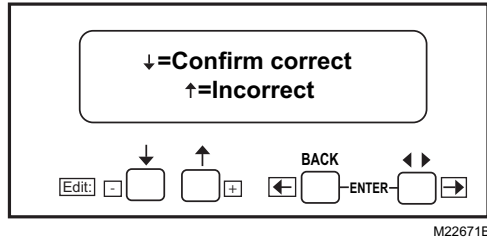

Fig. 20. Confirm Correct screen.
22. Press the down arrow to confirm the correct post-purge time. "Getting Data" will be displayed until the screen in Fig. 20 appears.